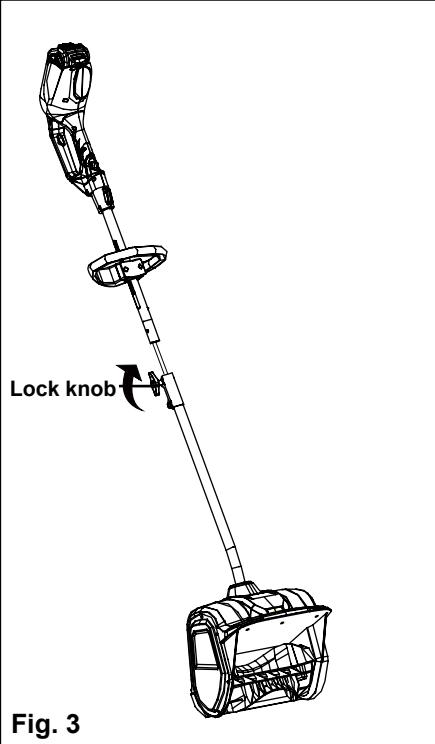

Fig. 3
- Turn the lock knob clockwise until it is fully tightened. (Fig. 3).